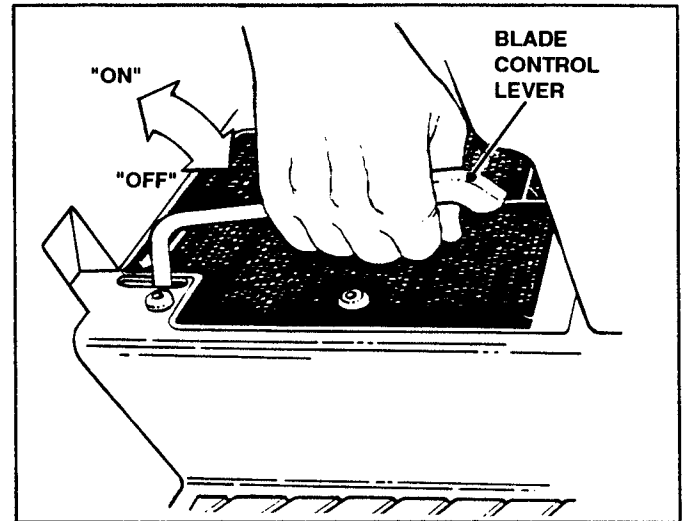
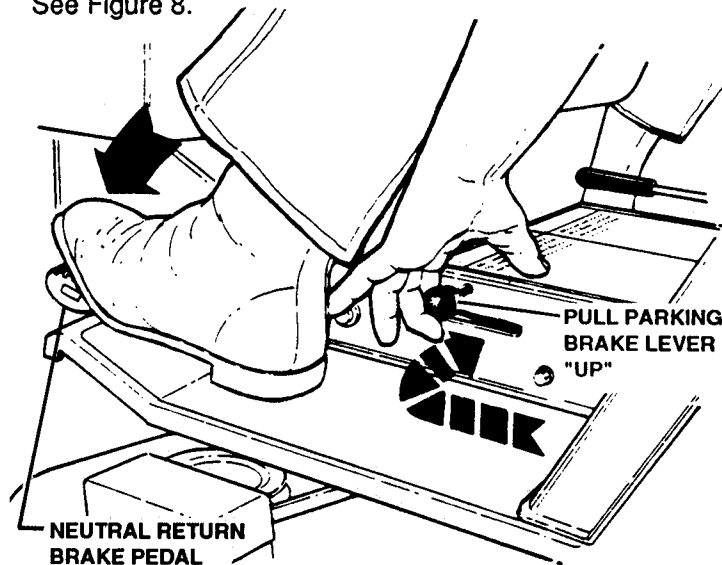

FIGURE 4
FIGURE 8
MOWER BLADE: *STOP MOWER BLADE* by pushing BLADE CONTROL lever downward to "OFF". See Figure 4.
1. PUSH BLADE CONTROL LEVER downward to "OFF" position (Fig. 4) and fully depress the NEUTRAL RETURN/BRAKE PEDAL (Fig. 8), so that Safety Interlock System will allow engine to start.
Depress NEUTRAL RETURN/BRAKE PEDAL. Pull PARKING BRAKE LEVER "UP" while releasing pedal. See Figure 8.